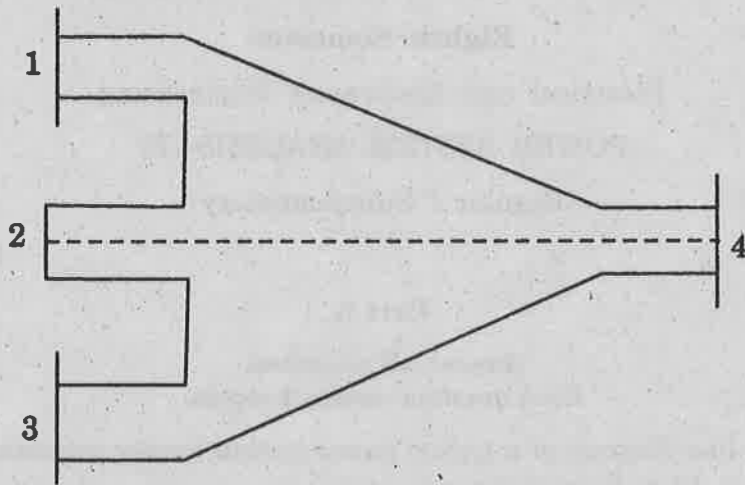

Fig. 1.
11. Determine the bus admittance matrix for the system given in Fig. 1. (on page 2)